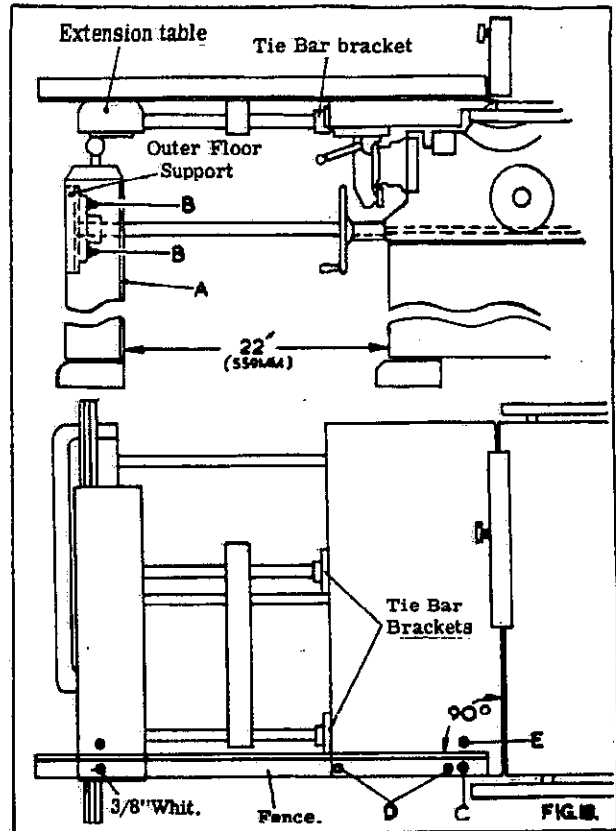

FIG. 18.
An extension table can be supplied to fit to the left of the saw as shown in fig 18. This table increases the capacity to the left of the saw to 98" (2,440 mm) between the saw and stop.
1. Remove parts from the parcel and remove protective coating by applying a cloth soaked in paraffin, turpentine or other solvent and assemble as shown in fig. 18.
6. Move fence forward to hole "E", in the machine table and repeat the procedure set out in item 5.